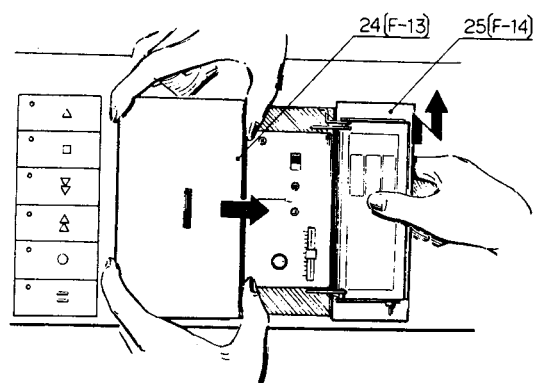

Fig. 3.1 Removal of Cassette Well and Lid
Refer to the Fig. 10-1, unfasten and remove the parts according to the removal procedure from (F-01) to (F-12). And remove the cassette lid and cassette well as shown in the Fig. 3-1 (F-13, 14). Then unfasten screws and remove the front panel (F-15 to 17).
Refer to the Fig. 3-1 and remove cassette lid and cassette well (F-13, 14). Then refer to Fig. 10-4-1 and remove the head mount base ass'y (F-18 to 27). Unfasten E-ring and spring with care, and remove the pressure roller arm ass'y (F-28 to 31).
Refer to the Fig. 3-1 and remove the cassette lid and cassette well (F-13, 14). Then refer to the Fig. 10-30 and remove the mount base cover ass'y (01 to 04, 05, 06, 08), then remove the pressure arm springs (09) and head mount base E ass'y (10 to 12). Refer to the Fig. 10-31 and unfasten E-ring and spring with care and remove the pressure roller arm ass'y (L01, 01, 02, 03).
Remove the cassette lid and cassette well as shown in the Fig. 3-1. Refer to the Fig. 10-4-1 and remove adjustment plate (F-18 to 23), then remove the board referring to the Fig. 10-8 (F-83 to 86).